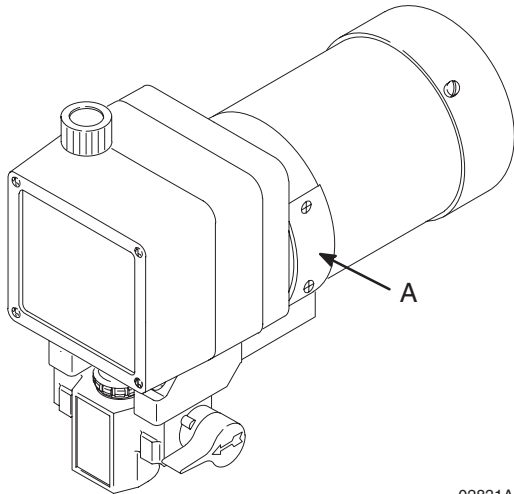

Fig. 15
1. Remove both inspection covers (A) and their gaskets. See Fig 15.